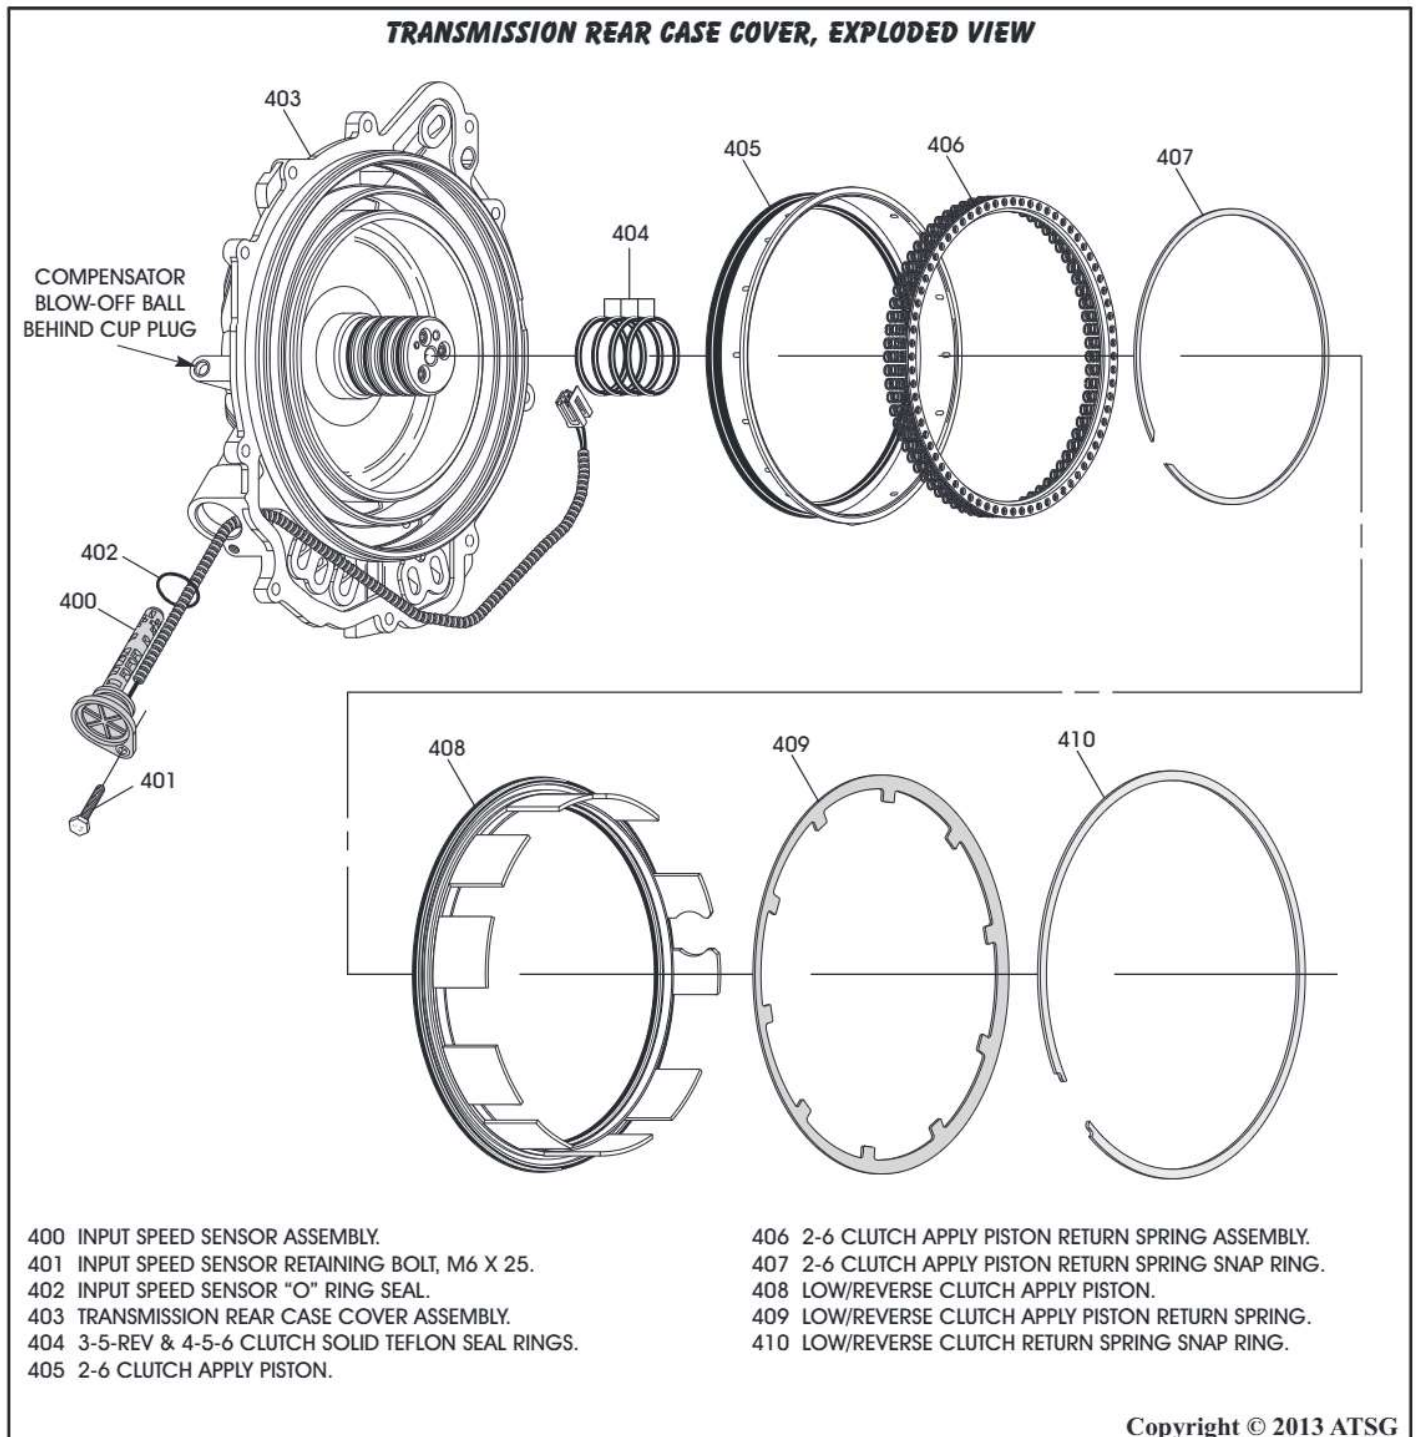

Figure 127
1. Disassemble the rear case cover assembly using Figure 127 as a guide.
Note: If the compensator blow-off ball needs to be removed, it is located behind the cup plug that is shown in Figure 127.